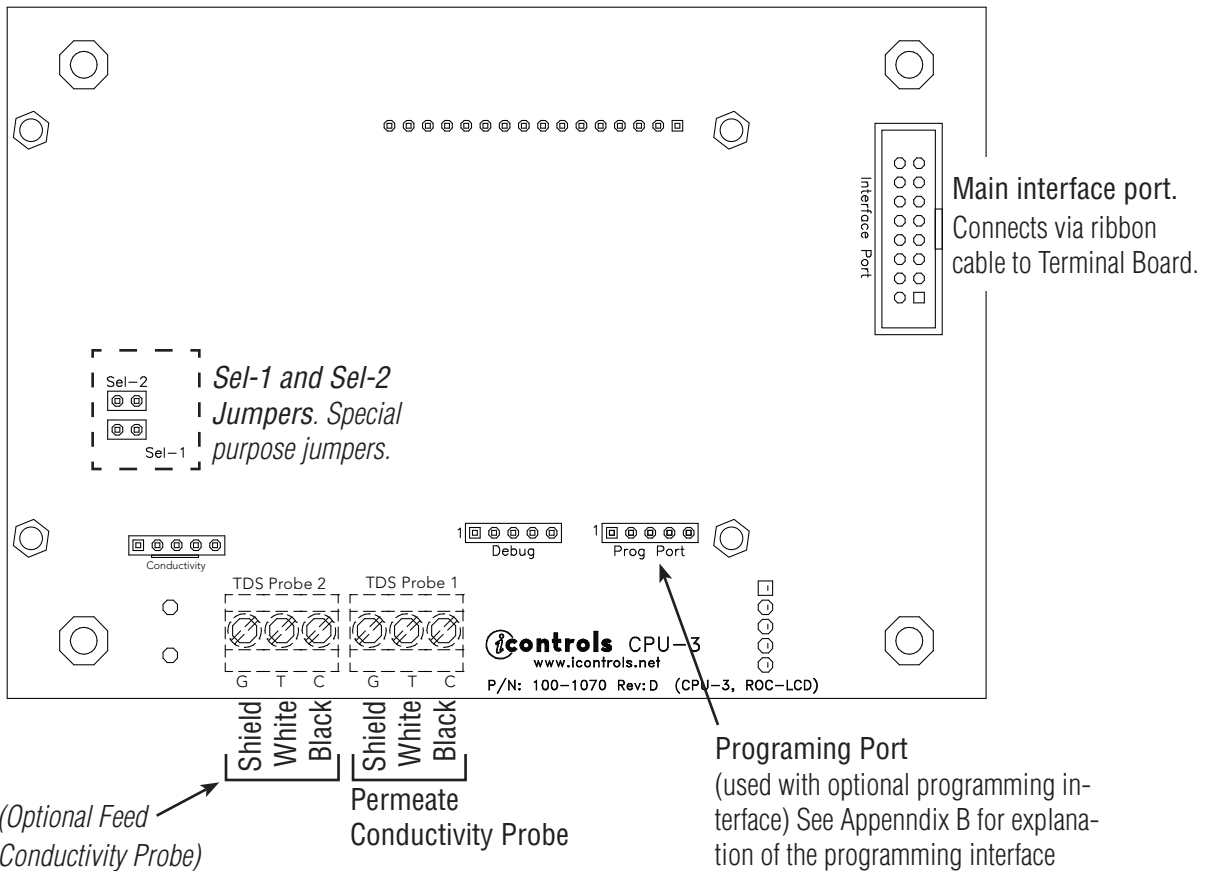

Figure 4. Controller Detail: Terminal Board, TB-1 (See Fig. 1 for schematic)
3. Bring the wires from the peripheral devices into the enclosure and connect them to the appropriate terminals. (See Figure 1, Figure 3 and Figure 4.)
4. Set the voltage selector switch on the Terminal Board to the desired voltage (120VAC or 240VAC) (See Figure 4.)
5. Install the correct power fuse for your voltage/motor HP. See the table below and Figure 4.